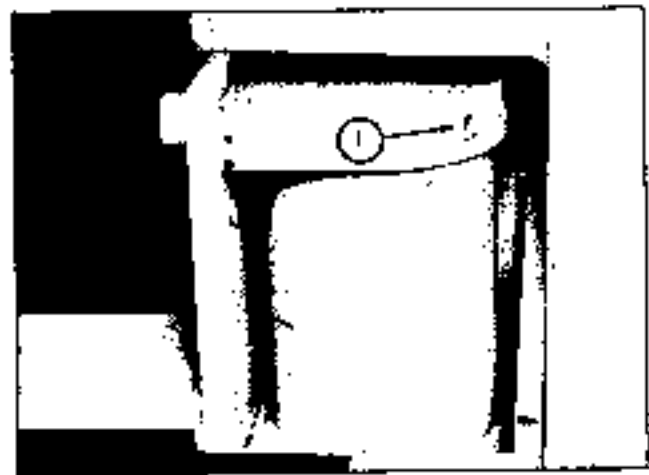

Fig. 1-20. Hydraulicer.
a. Tighten elastic nut (3) to apply preload to bearings (22 and 24) to obtain a rolling torque of 30 to 40 inch pounds on piston (16). Wrap a string around piston, attach a spring scale and tighten nut to obtain a scale reading of 14 to 18 pounds. (Since radius of piston is 2.249 to 2.251 inches, a pull of 14 to 18 pounds is equivalent to a rolling torque of 32 to 40 inch pounds.)
b. With piston (16) and related components reinstalled in cylinder, engage tangs of lock ring (17) in notches in ring (16). Tighten retaining ring securely and bend back edge of lock ring up against cylinder. Bend front edge down to avoid interference with frame.
c. Tighten the castellated nut (36) on steering spindle to snug up bearings (27 and 29) so there is no end play.
e. Recharge hydraulicers as follows: Place lift truck on level floor with no load. Jack up rear of truck, remove rear side panels, and remove filler plugs from both hydraulicers. Fig. 1-20. Lower lift truck to raise both wheels to their extreme height.